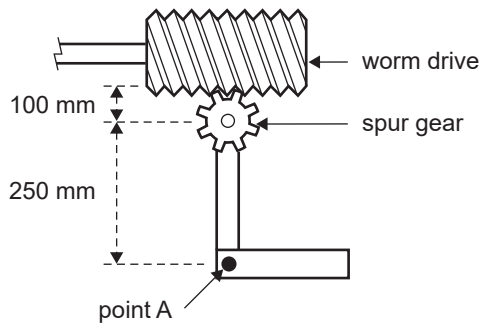
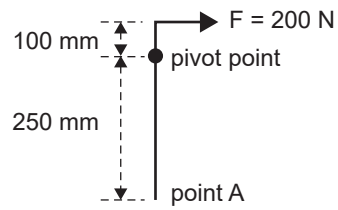

Figure 9a
Figure 9b
- c. The steering mechanism shown in Figure 9a is simplified into the lever shown in Figure 9b.
When the driver of the car turns the steering wheel, the force exerted on the spur gear is 200 N, as shown in Figure 9b.